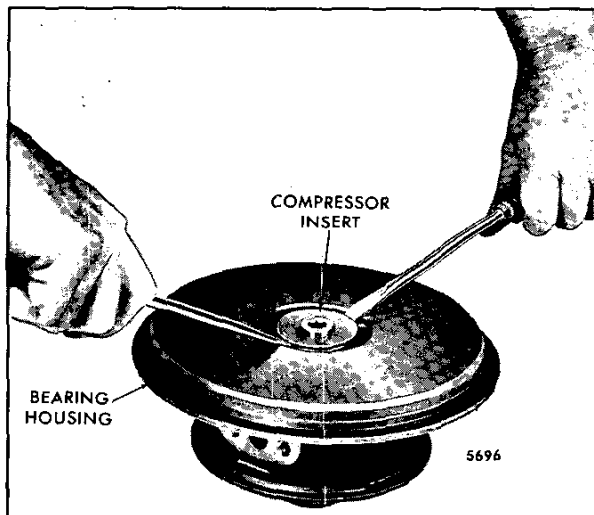

Fig. 7 - Removing Compressor Insert from Bearing Housing
8. Remove the compressor insert from the bearing housing by prying evenly and gently with screw drivers placed under the lip of the insert (Fig. 7).